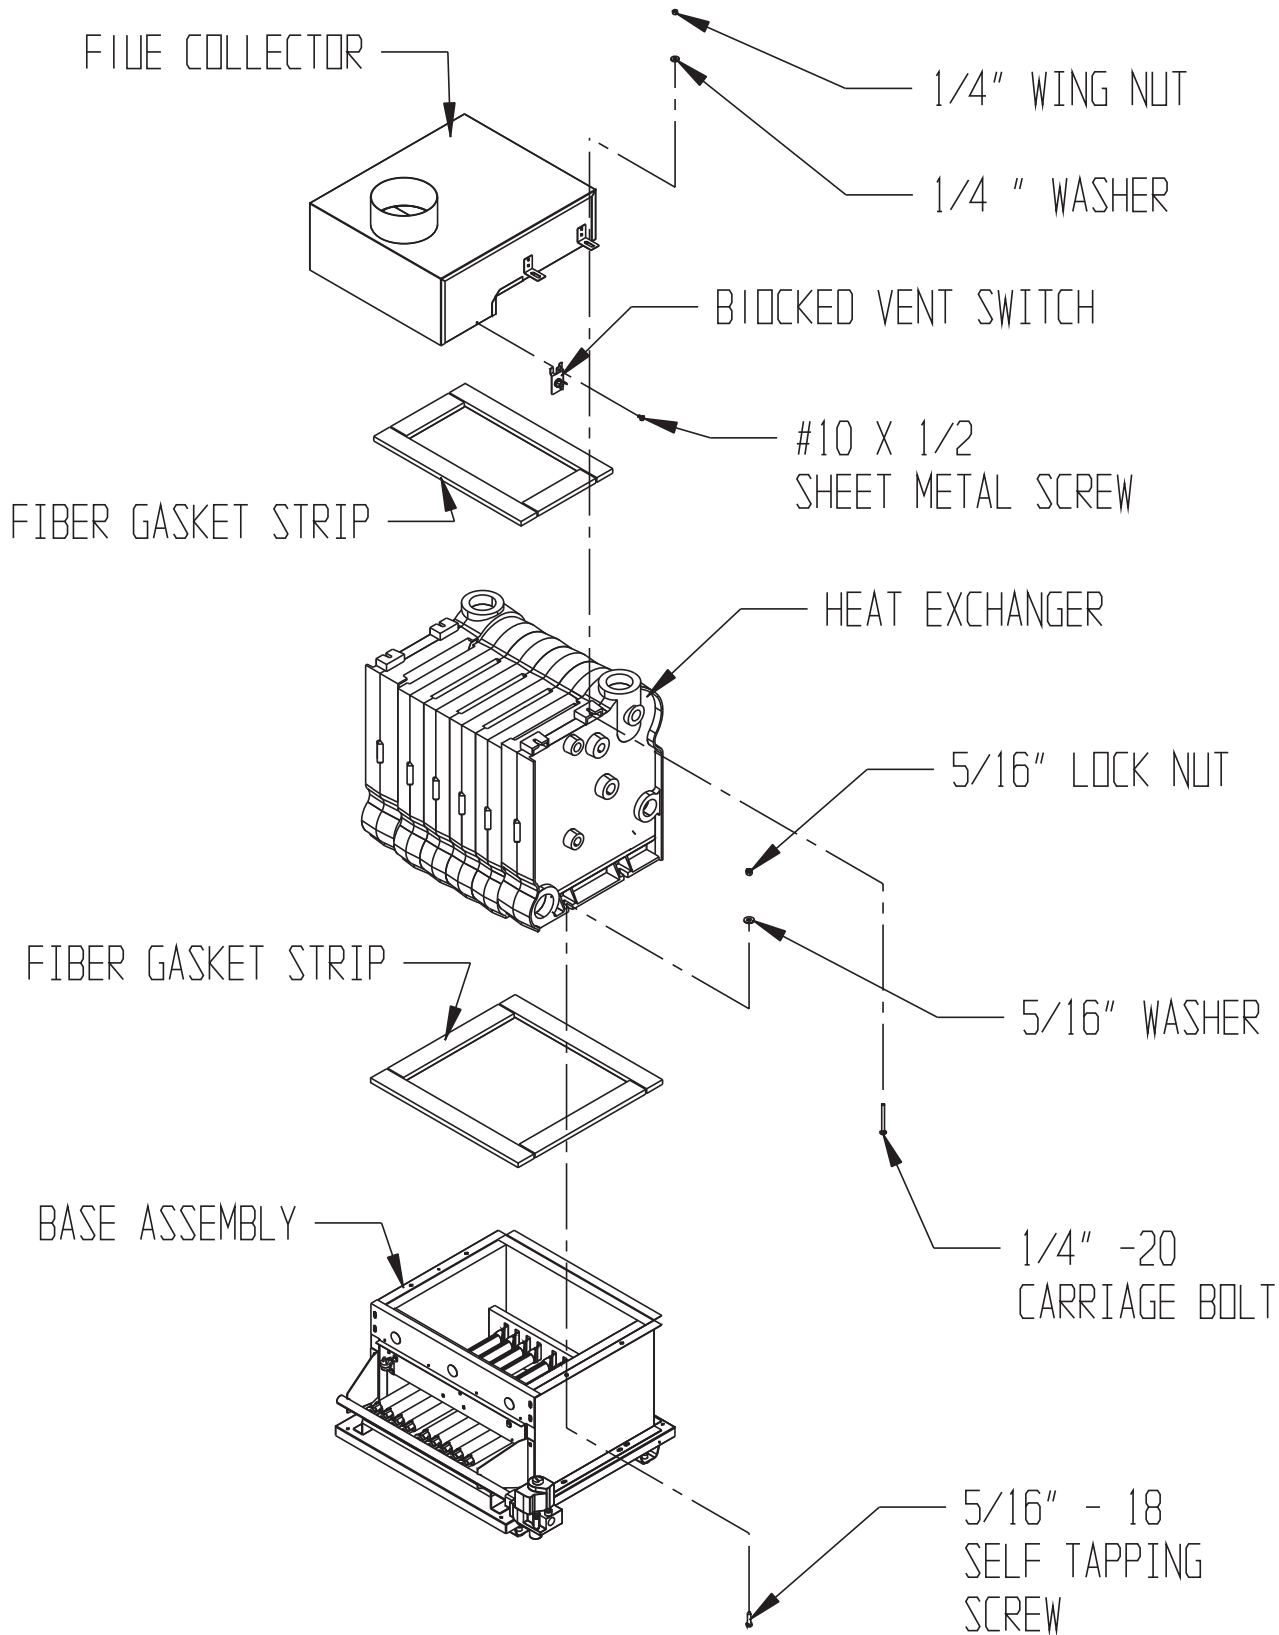

FIGURE A1: BASE, HEAT EXCHANGER, FLUE COLLECTOR ASSEMBLY
- 3) Install the fiber gasket strip, which was shipped in the “Base Box” (Figure A1).
- 1) Position the heat exchanger above the base with the return connection located toward the front of the boiler and the lugs, located on each end of the boiler, centered over the studs, which are on each end of the base (Figure A1). Lower the heat exchanger over the studs, taking care not to disturb the studs which may push out if the heat exchanger comes in contact with them. Also, take care not to disturb the ceramic fiber gasket.
- 5) Fiber gasket strips are used to seal the flue collector to the heat exchanger (this is the same material used between the heat exchanger and base). Install this gasketing on the top of the heat exchanger (Figure A1). A few dabs of silicone may be used to keep this gasketing from shifting when the flue collector is installed.
- 6) Install the flue collector as shown in Figure A1. Secure with the 1/4-20 carriage bolt, nuts, and washers provided.
- 8) Install the blocked vent switch using the #8 sheet metal screw provided as shown in Figure A1.